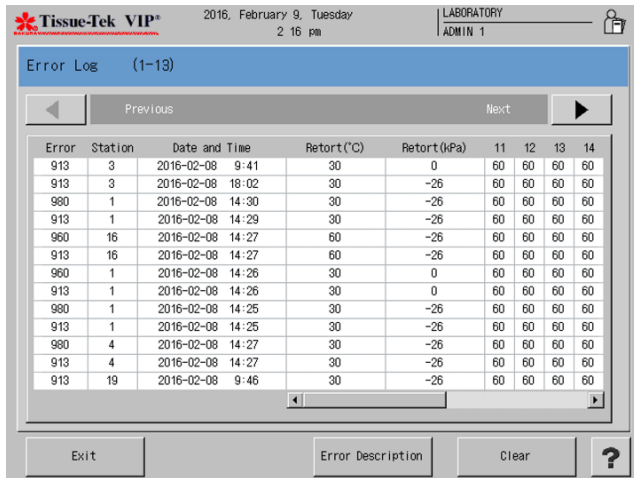

Figure 3-HH
- The Error Log screen displays (Figure 3-HH).